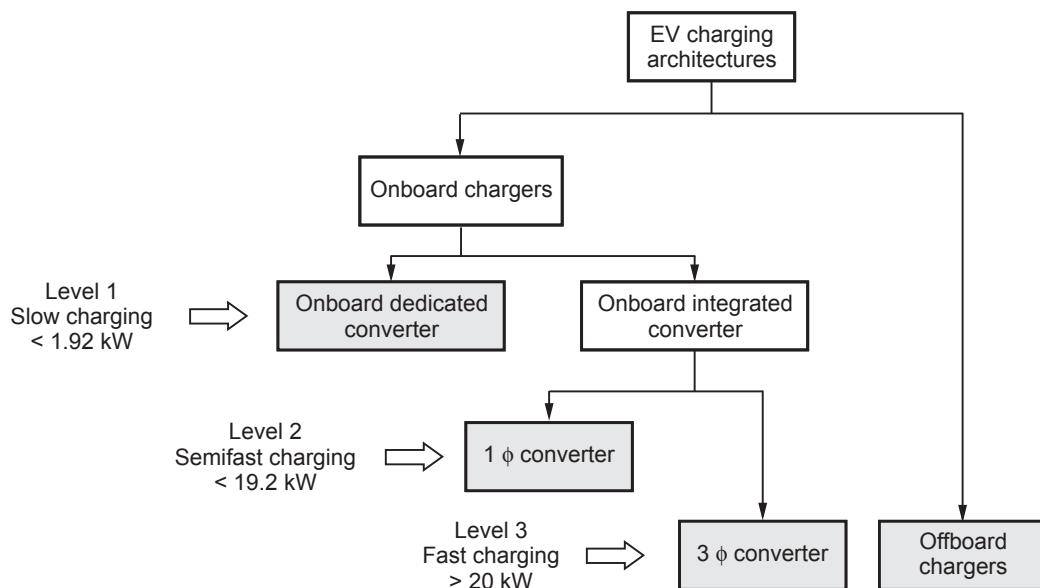

Fig. 6.13.1 EV charging architectures
- Constant current constant voltage (CC/CV) charging :** This is the most popular charging method used to recharge Li-ion batteries. The battery is charged initially with constant current (CC) and then finally with constant voltage (CV).
- Five step charging method :** The constant current (CC) charging time is divided into five steps. In each stage, the charging current is set to specific threshold value. The voltage of the battery increases in each stage and the stage is changed when battery voltage reaches pre-set voltage.
- Fig. 6.13.1 shows the classification of electric vehicles battery charging architectures. These architectures are classified depending upon factors such as structure, power rating, charging times, type of connection, location, etc.